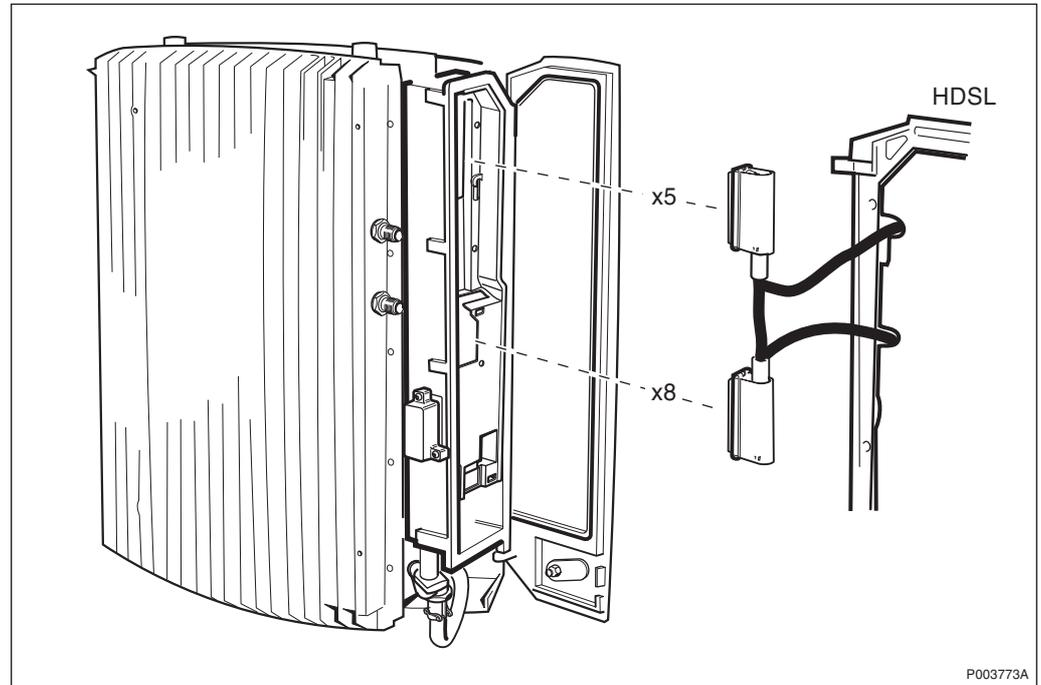

Figure 186 Connecting the HDSL modem cables
- Connect the cables from the HDSL to the respective connector, X5 and X8. See Figure 186 on page 169.